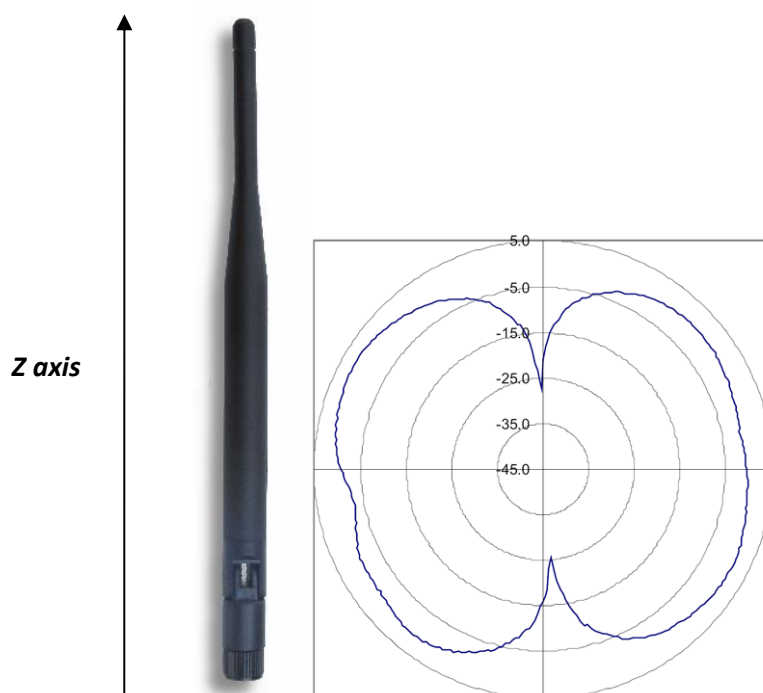

Figure 5: Half-Wave Dipole Antenna
Figure 5 below shows the radiation pattern of a half-wave dipole antenna (for the BeanGateway® Indoor antenna example). Note that the dipole radiates in a similar way to the isotropic case close to the horizontal, but has virtually no radiation at the vertical.
- ✓ **Non-engineered:** A node is installed in a changing network in which the node is required to communicate with other nodes in various directions. These directions may be known or unknown, but they may also change with time as nodes are added or moved. This scenario requires that all directions are covered by the antenna's radiation pattern and, therefore, the use of an antenna with low directivity, such as the half-wave dipole shown in Figure 5.